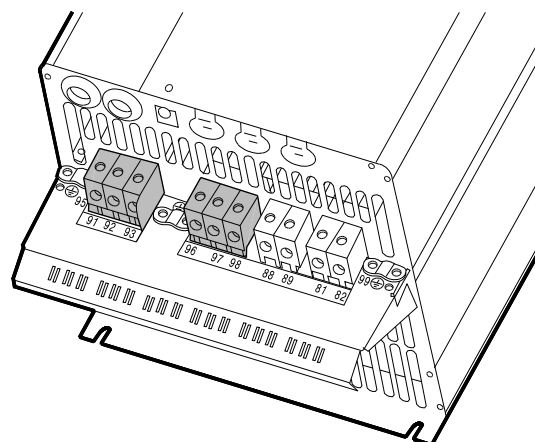

Fig. 19 Mains and motor connection, C3
1. Connect the ground conductor to terminal 95 (PE). See figs 19 and 20.
1. Connect the ground conductor to terminal 99 (PE). See figs 19 and 20.
2. Connect the motor conductors to the terminals 96 (U), 97 (V), 98 (W).